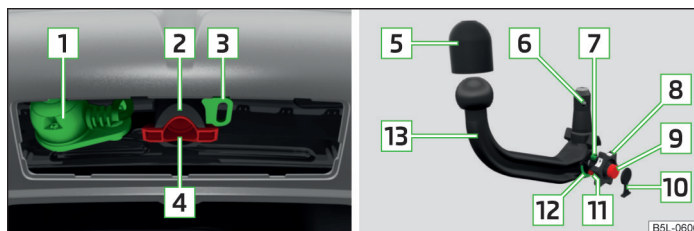

Fig. 126 Carrier for the towing device/tow bar
Explanation of graphic » Fig. 126
- Remove the cover for the mounting recess **4** » Fig. 126 on page 152 in a downwards direction.
- ▶ Attach the cover for the mounting recess **4** » Fig. 126 on page 152 » **!**.